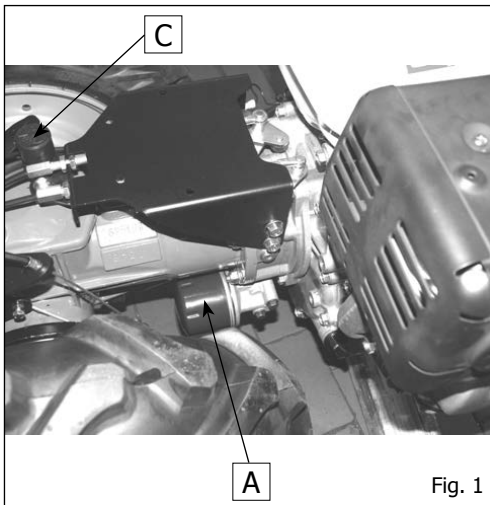

Fig. 1
- Replace the gearbox **oil filter ONLY**, (*fig. 1, A*), part number 58056249.
- Check the gearbox oil level using the dipstick (*figs. 1 & 2, C*), run the machine for 2-3 minutes and recheck gearbox oil level, top up as necessary using the correct oil as listed below.
- Replace the gearbox oil filter (*fig. 1, A*), part number 58056249.
To replace the oil filter (fig. 1, A)